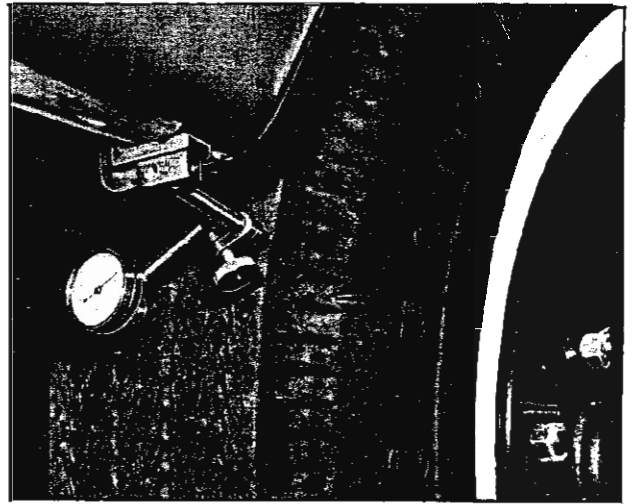

Fig. 3A-2
2. Remove wheel and tire assembly and rotate on drum until heaviest point of the assembly indexes with lightest point on the drum (the weight on the outer rim of the drum face marks the lightest point on the drums are balanced light at manufacture, see Fig. 3A-3).